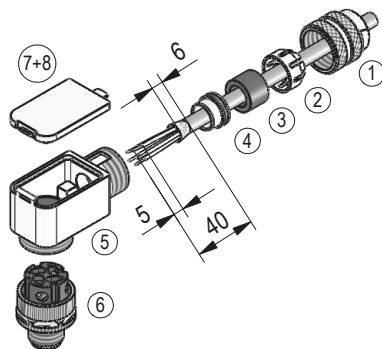
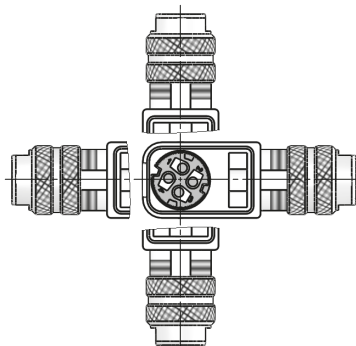

Fig. 14: Right angle mating connector M12 D coded
Fig. 15: Angled positions
- ▶ Strand cross sections of lines $\leq 0.75 \text{ mm}^2$ / cable feed-through: $\varnothing 6 \dots \varnothing 8 \text{ mm}$ (Ethernet port 1 (IN) + port 2 (OUT)).
- Accessory SIKO art. no. "87600" M12 D coded (plug pin 4 pole Ethernet port 1 (IN) + port 2 (OUT)) (Fig. 14 + Fig. 15).
Mounting (Fig. 14)
Changing the angle position (Fig. 15)